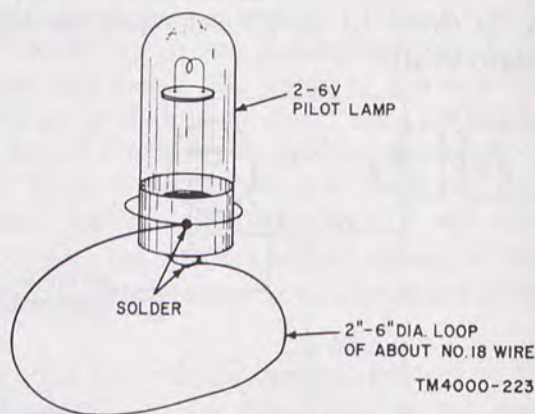

Figure 58. Simple RF indicator.
b. A rapid method for determining whether a transmitter oscillator is operating is to couple a simple RF indicator (fig. 58) to it. If the indicator is used with high-powered equipment, the lamp should be mounted on a long dry stick to prevent possible shock or burns.